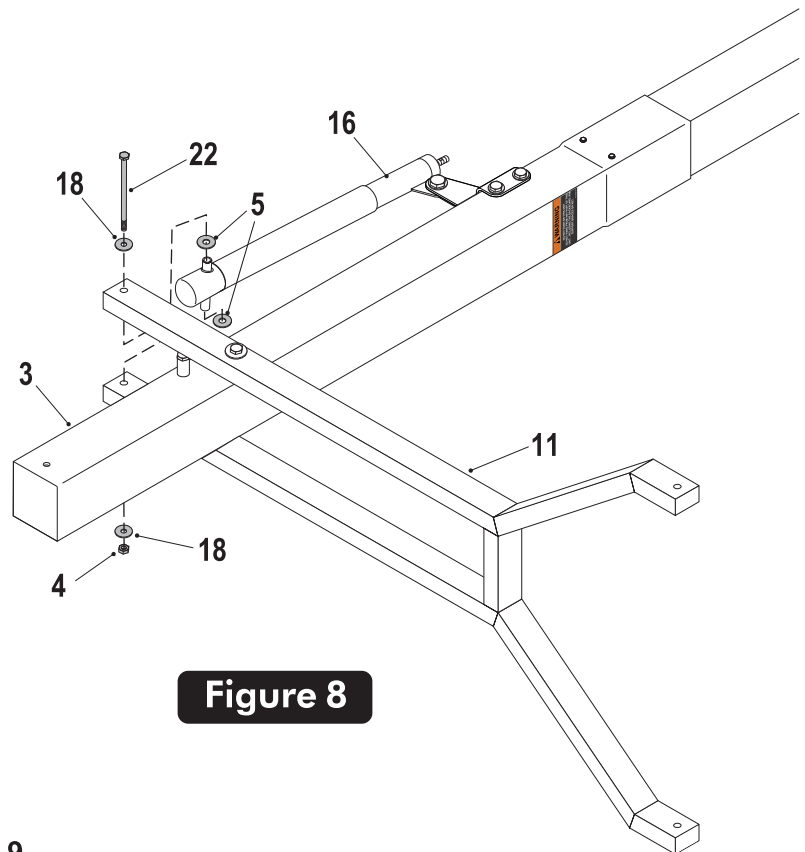

Figure 8
9. Secure Actuator (#16) to Lower Arms (#11) using one bolt (#22), two flat washers (#18), two plastic washers (#5) and one lock nut (#4). See Figure 8. Tighten both bolts (#22) snug but, do not over tighten. Board Arms must pivot freely.